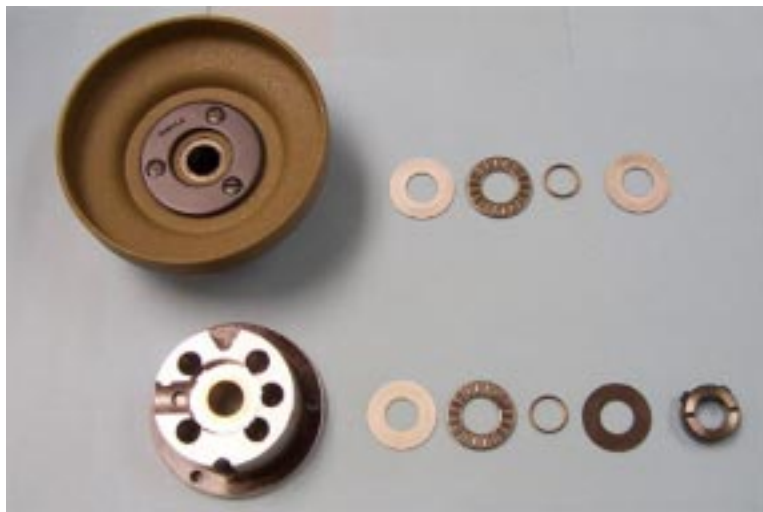

Fig 4
4) Remove handwheel assembly, bearing housing with 2 thrust washers, 1 thrust bearing and 1 brass pilot ring on each side and thrust collar. (fig 4)